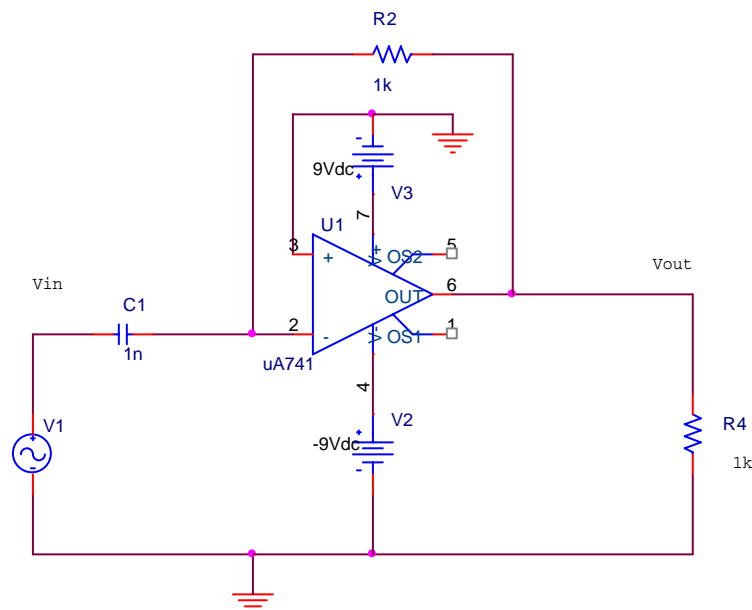

Figure C-5
- Remove the feedback capacitor, C2. Replace R1 with an input capacitor, C1=1μF . Replace the 100K feedback resistor with a 1K resistor, R2. Your circuit should now look like figure C-5.